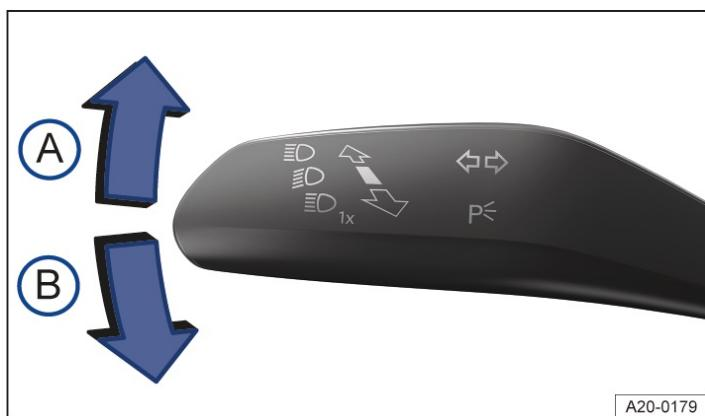

Fig. 1 On the left-hand side of the steering column: turn signal and main beam lever.
- (A) Right turn signal ➡.
- (B) Left turn signal ⬅.
2. Move the turn signal and main beam lever from the centre position to the desired position → *Fig. 1*: